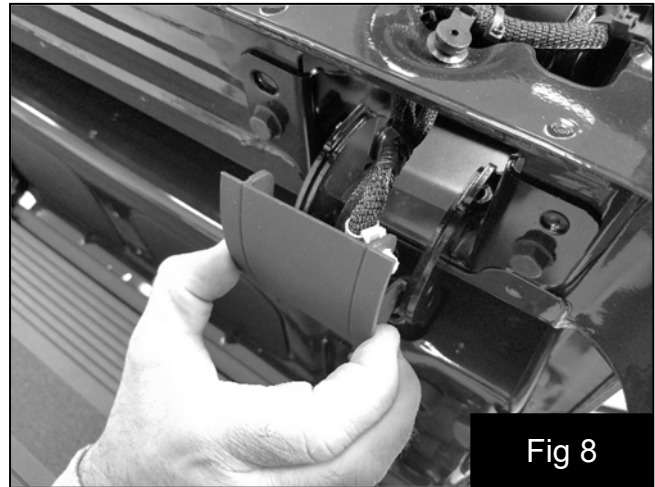

Fig 8
9. Fold the inner tailgate section down and snap loose the plastic hinge cover on the passenger side to aid in harness routing. Fig 8